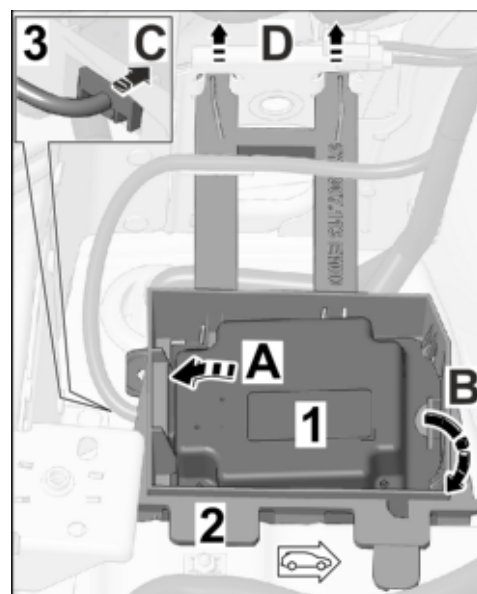

Figure 13
- 2.3 Installing engine noise control unit ⇒ *Figure 13*
- 2.3.1 Push control unit into holder and lock. ⇒ *Figure 13 -A and B-*
- 2.3.2 Establish a plug connection (16-pin) between the wire harness for engine noise / engine noise control unit. ⇒ *Figure 13 -C-*
- 2.3.3 Fit holder with engine noise control unit to body. ⇒ *Figure 13 -D-*